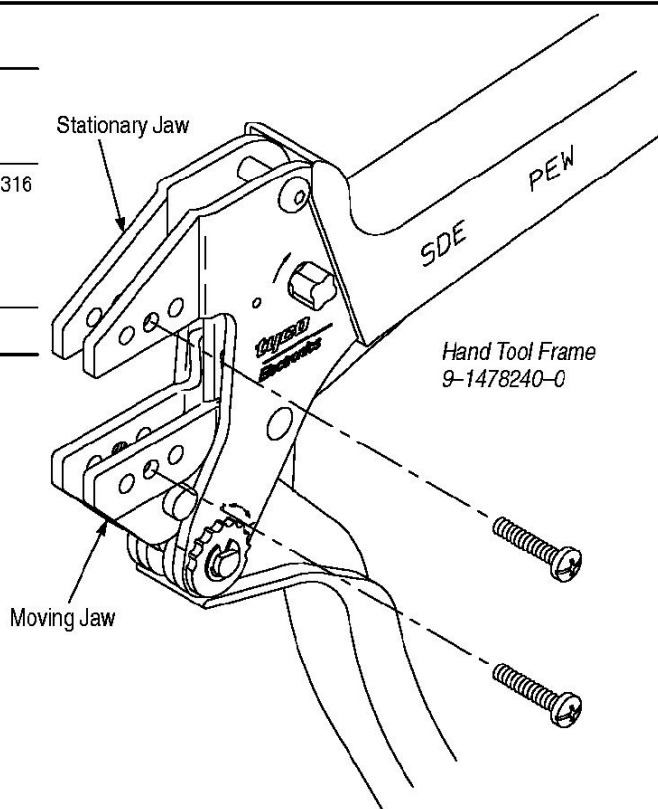

Figure 1
This instruction sheet covers the use and maintenance of GREENPAR Crimping Dies 9-1478243-0, 9-1478245-0, and 9-1478247-0 (in their various configurations – denoted by the dash number following the base part number), used in Hand Tool Frame 9-1478240-0. The dies crimp various plug connectors onto coaxial cable. See Figure 1 for a list of the connector types and cable sizes each die set can crimp.
2. DESCRIPTION (Figure 1)
2. See Figure 1 for normal orientation of the dies. Insert the dies inside the tool jaws and align the retaining screw holes.